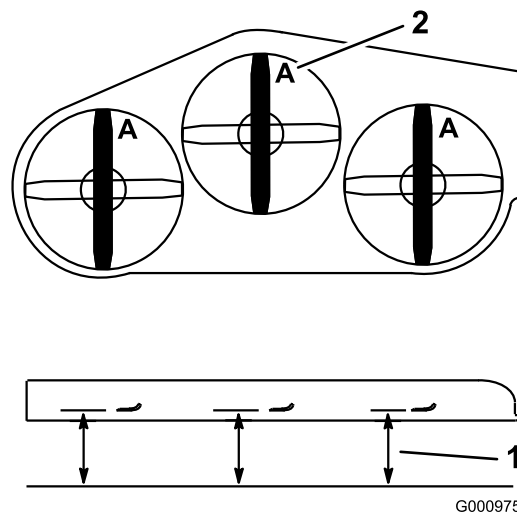

Figure 83
4. Measure at **A**, and from a level surface to the cutting edge of the blade tips (Figure 83).